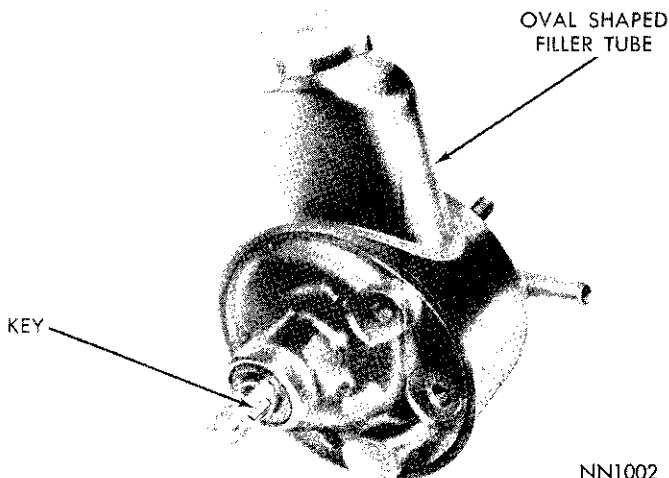

Fig. 1—.94 Pump
(58) Install valve body on housing making sure valve pivot lever enters hole in valve spool (Fig. 1). Be sure "O" ring seals are in place. Tighten valve mounting screws to 7 foot-pounds.
(59) Install new gear shaft seal followed by seal back-up washer and snap ring and a new grease retainer as outlined under "Gear Shaft Oil Seal Replacement."
The .94 pump can be identified by the long oval shape of the filler neck and a drive pulley secured to the drive shaft with a large nut. (Fig. 1). Rectangular pumping vanes carried by a shaft driven rotor, move the fluid from the intake to the pressure cavities of the cam ring. As the rotor begins to rotate, centrifugal force throws the vanes against the inside surface of the cam ring to pick up residual oil which is forced into the high pressure area. As more oil is picked up by the vanes, oil is forced into the cavities of the thrust plate, through two cross-over holes in the cam ring and pressure plate which empty into the high pressure area between the pressure plate and the housing end plate.